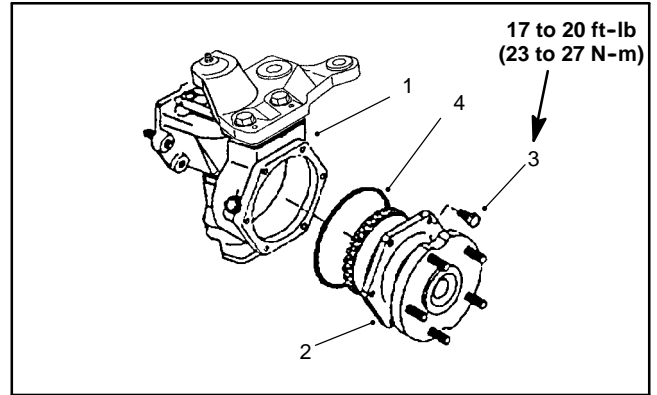

Figure 27
1. Remove the axle cover mounting screws. Remove the axle cover from the axle case as an assembly (Fig. 27).